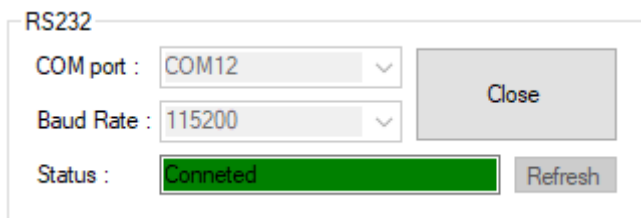
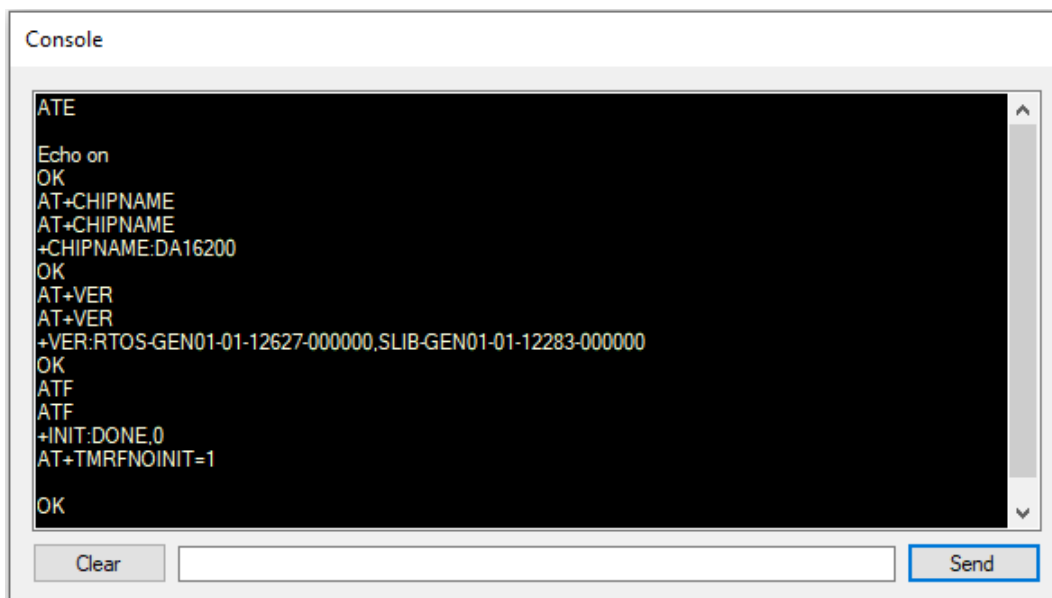

Figure 5: RS232 Setup – Connected
Figure 6: Debug Console – Connected
- Select a COM port and click the **Open** button and wait for a few seconds. See Figure 5 and Figure 6.